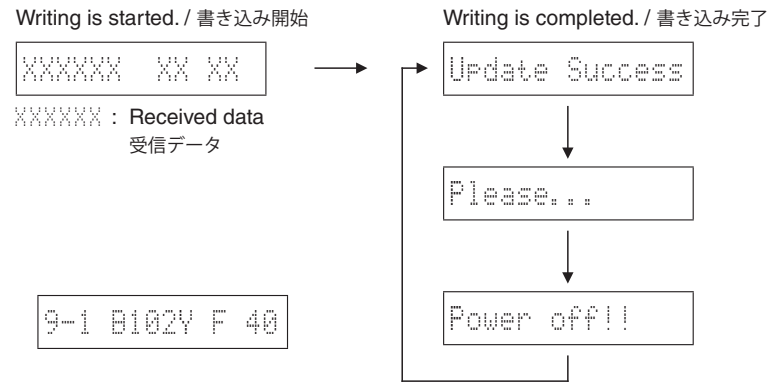

Fig. 3
Then writing of the firmware is started. (Fig. 3)
7. When writing of the firmware is completed, "Update Success", "Please..." and "Power off!!" are displayed repeatedly. (Fig. 3)
(Fig. 3)
7. ファームウェアの書き込み完了後、"Update Success"、"Please..."、"Power off!!" が繰り返し表示されます。(Fig. 3)